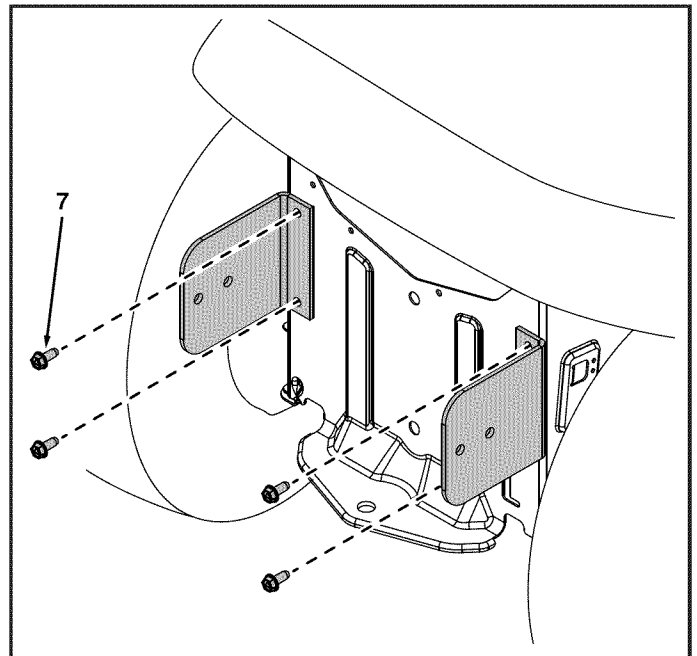

FIGURE 6
1. Attach both weight bracket arms (2b) to drawbar using four 5/16" x 3/4" hex bolts. See figure 6.